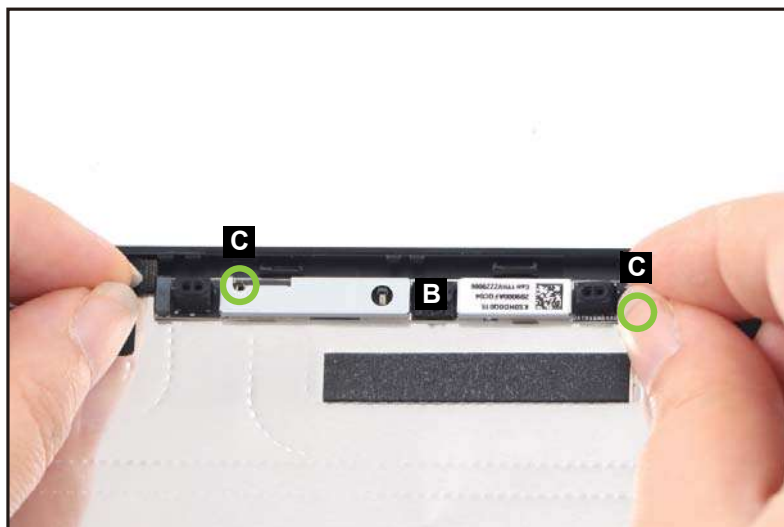

Figure 3-75. Replacing the Camera Module
2. Align and install the camera module (B) to its compartment on the LCD cover (Figure 3-75).
When installing the camera module, make sure it is properly aligned with the guide pins (C) and placed onto its designated location as shown in Figure 3-75.